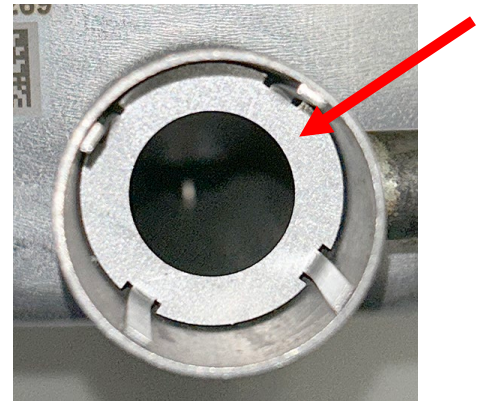

Figure 4
16. Visually inspect the opening of the burner to ensure a restrictor is in place before proceeding (see Figure 4).